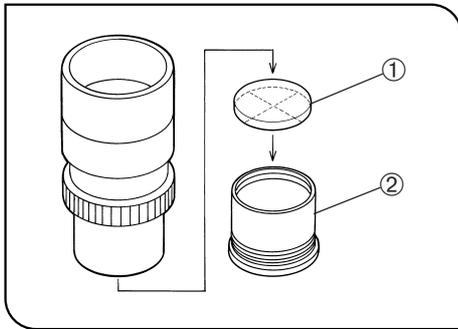

Fig. 22
4 Using Eyepiece Micrometer Disks (Fig. 22)
Following Fig. 22, remove the micrometer mounting frame ② from the eyepiece and place a micrometer disk ① into the mounting frame so that the surface with the model indication faces downward.